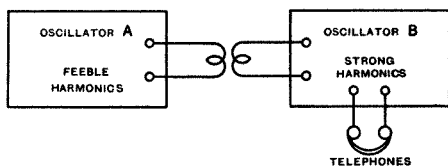

Fig. 9.
When two heterodyne wavemeters, both rich in harmonics, are used together, it is sometimes very difficult to ascertain which pair of frequencies are combining to give any particular heterodyne scream. Unless the scales of both instruments have been calibrated so as to be tolerably closely accordant already, it is desirable to reduce as much as possible the harmonics in one of the oscillators (A, Fig. 9), and to place the telephone in the other oscillator (B).